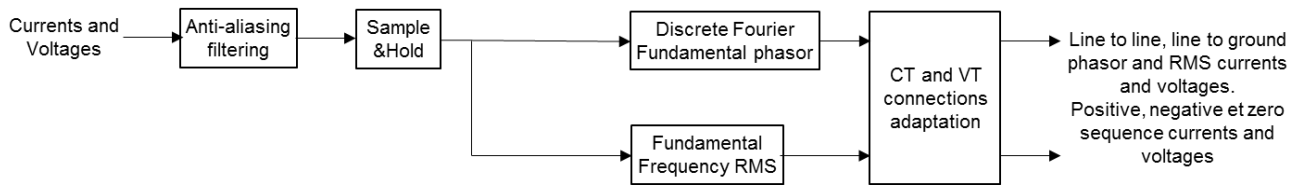

Figure 1-1 Subsystems of the signals acquisition function.
The Signal Acquisition functions are present in all relay models. It is set by the parameters entered in the “Electrical Characteristics” tab and uses the same inputs as the relay device. It samples the inputs from the current (CT) and voltage (VT) transformers, and processes them into phasors and RMS values utilized thereafter by the protection functions. The following scheme (Figure 1-1) describes the processing steps.
This block is shown in Figure 1-1. The phasors of the inputs for the fundamental frequencies are calculated by a cosine filter. The phasor values are held between two sampling times.
This block is shown in Figure 1-1 (Fundamental Frequency RMS).